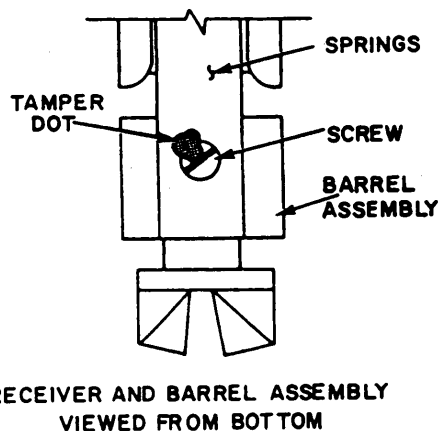

Figure 2-6.—Checking springs and tamper dot.
8. Inspect the leaf springs on the receiver and barrel assembly for damage. Make sure the retaining screw has not loosened. (Check the tamper dot on the screw and spring, as shown in figure 2-6.)